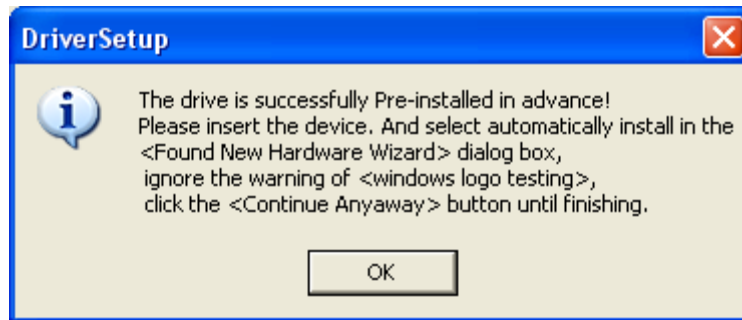
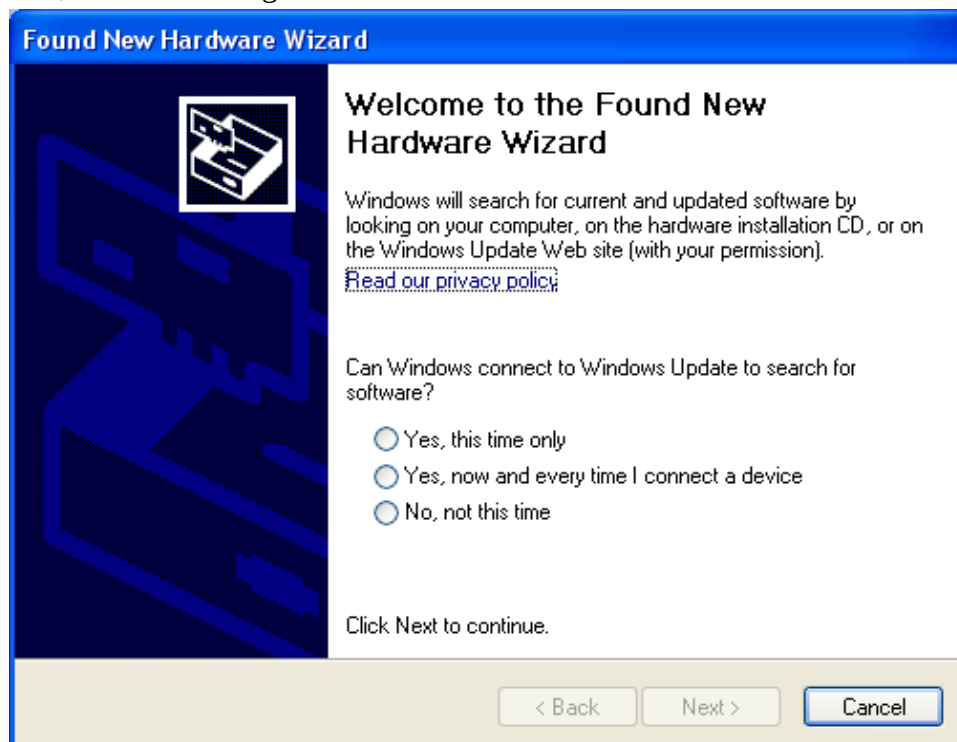

Figure 1-12
Figure 1-13
Step 3 : When automatic installation is complete, as indicated by the pop-up box in Figure 1-12, click **OK** in Figure 1-13. Your USB driver is now successfully installed on your computer and ready for use.
2. After checking that connection and power supply are normal, power on the digital storage oscilloscope. When the operation status screen appears, a prompt will appear at the right bottom corner of the computer to indicate “New hardware detected”, as shown in Figure 1-13.